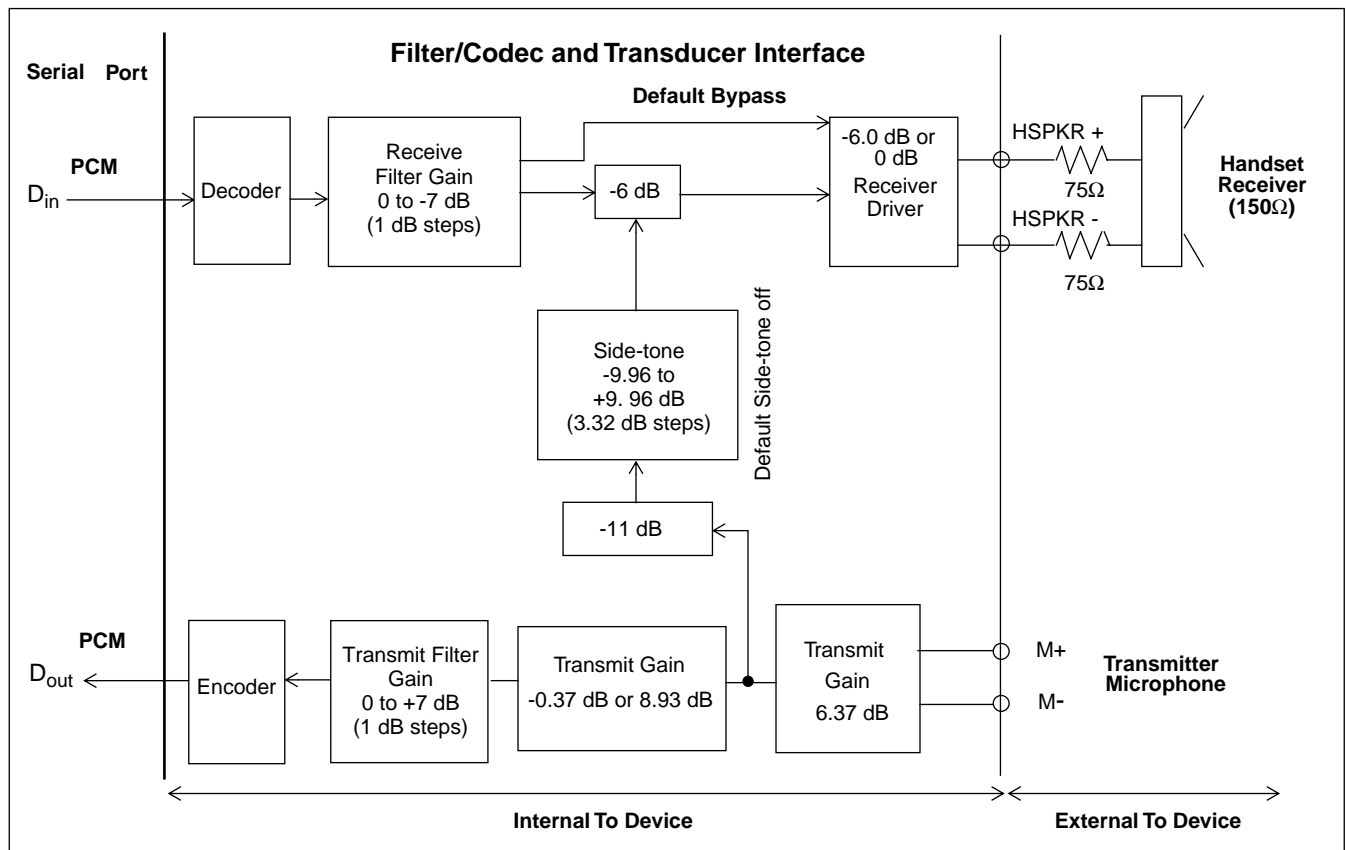

Figure 3 - Audio Gain Partitioning
The Filter/Codec block also implements transmit and receive audio path gains in the analog domain. A programmable gain, voice side-tone path is also included to provide proportional transmit speech feedback to the handset receiver. This side tone path feature is disabled by default. Figure 3 depicts the nominal half-channel and side-tone gains for the MT91L60/61.
- The handset speaker outputs (receiver), pins HSPKR+/HSPKR-. This internally compensated fully differential output driver is capable of driving the load shown in Figure 3. The nominal receive path gain may be adjusted to either 0 dB, -6 dB or -12 dB. Control of this gain is provided by the  $\text{RxINC}$  control bit (Gain Control register 1, address 00h). This gain adjustment is in addition to the programmable gain provided by the receive filter.